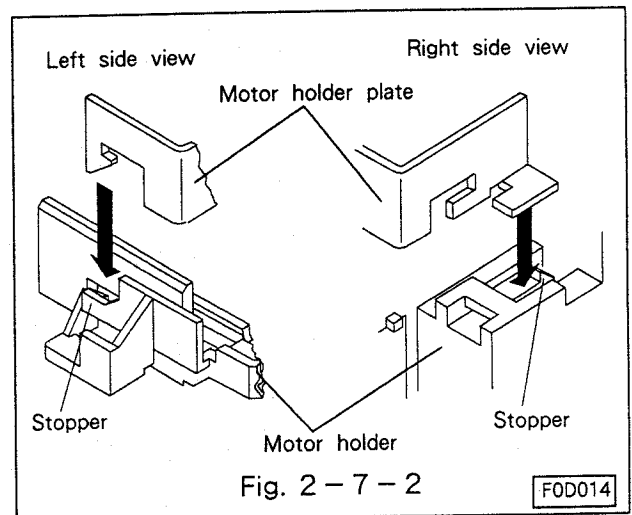

Fig. 2-7-2
- Remove two stoppers securing the motor and the motor holder plate. (Refer to Fig. 2-7-2.)